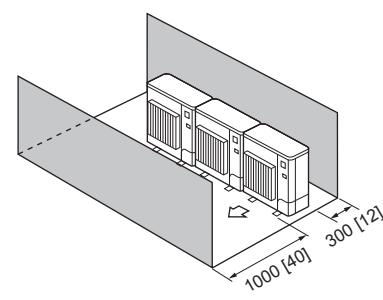

Fig. 2-15
4. Obstacles at front and rear only (Fig. 2-15)